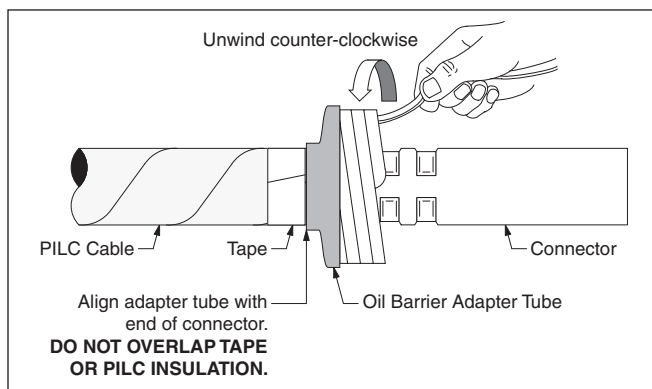

Figure 5
- 3.6 Align the edge of the oil barrier adapter tube with the PILC end of the connector and shrink by pulling and unwinding the ribbon tab. **Do not overlap the adapter tube onto the PILC cable insulation** (Figure 5).